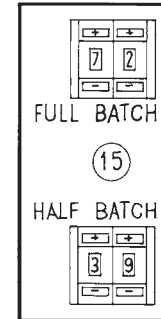

Figure 3
**Two Batch Timer with Counter Adjustment, See Figure 3:**